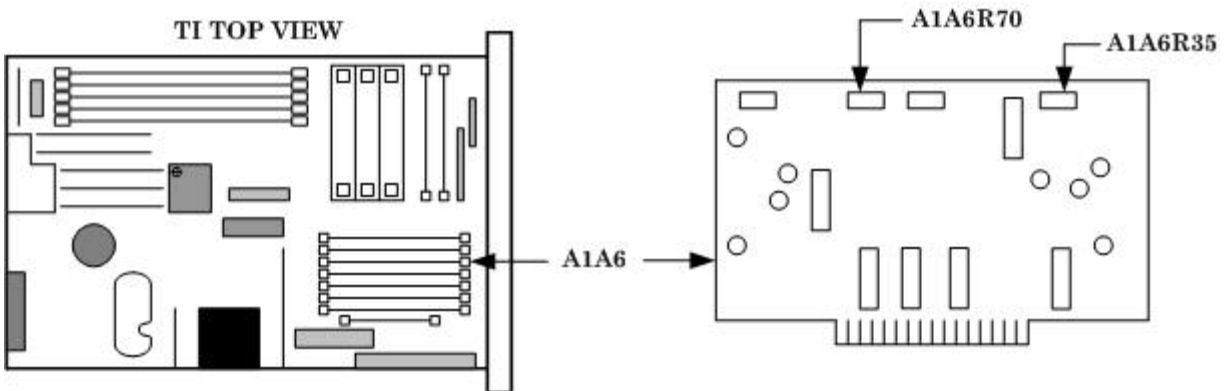

Figure 15. FM Adjustment locations.
- (2) Press TI keys as listed in (a) through (g) below:
(3) Set the audio analyzer to produce a 100 kHz, 0.01 V LEVEL STEP size, 1.414 V output with 600 Ω output impedance, then select special function 17.
(4) Set measuring receiver and local oscillator to measure 15 GHz, then select **FM** measurement and **300 Hz HP FILTER**, **3 kHz LP FILTER**, and **+PEAK** detector.
(5) Adjust A1A6R35 (fig. 15) for an indication of 100.0 \pm 1 kHz FM deviation on the measuring receiver (R).
(6) Adjust A1A6R70 (fig. 15) until TI meter indicates 100 kHz FM deviation (needle at full scale) (R).